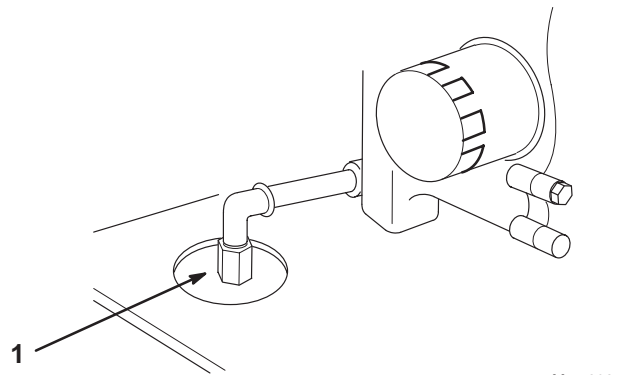

Figure 24
3. Place a pan below the oil drain. Remove the oil drain cap (Fig. 24).